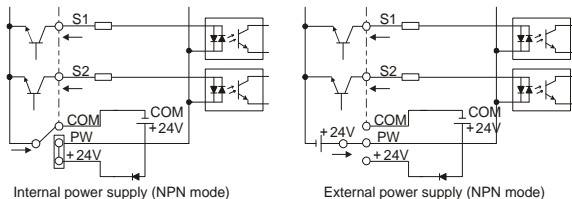
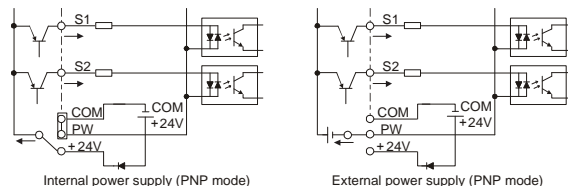
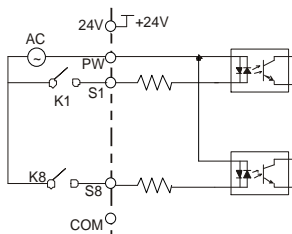

Figure 3-12 NPN mode
Figure 3-13 PNP mode
Figure 3-14 AC signal wiring
(1) 24 V DC input voltage type: Use a U-shaped short-circuit connector to set the NPN or PNP mode and internal or external power supply. NPN internal mode is adopted by default.
(2) 24-48 V AC input voltage type: Wiring according to external power supply (NPN mode) shown in Figure 3-12 or external power supply (PNP mode) shown in Figure 3-13.
connector according to the power supply used, as shown in Figure 3-12.
When input signals are transmitted by a PNP transistor, configure the U-shaped short-circuit connector according to the power supply used, as shown in Figure 3-13.
The PTC resistor is connected between S7 and COM. The two ways to use the external and internal jumpers are shown in above figures, and the selection depends on the usage shown in Figure 3.12, Figure 3.13, and Figure 3.14. P05.07 selects 71 PTC overtemperature valid signal to enable, and P27.20 can set this signal as alarm or fault signal.
When the PTC resistor is connected between S8 and COM, the two ways to use the external and internal jumpers are shown in above figures, and the selection depends on the usage shown in Figure 3.12, Figure 3.13, and Figure 3.14. P05.08 selects 71 PTC overtemperature valid signal to enable, and P27.20 can set this signal as alarm or fault signal. S7 and S8 cannot use PTC overtemperature valid signal function simultaneously.